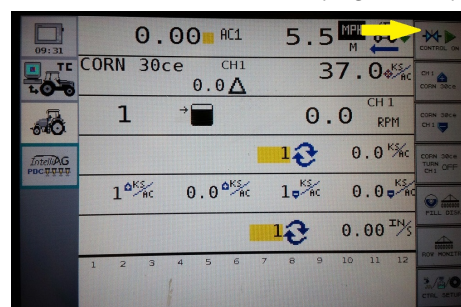

Figure 54
Step 8. Turn **Control ON**. (Figure 54)